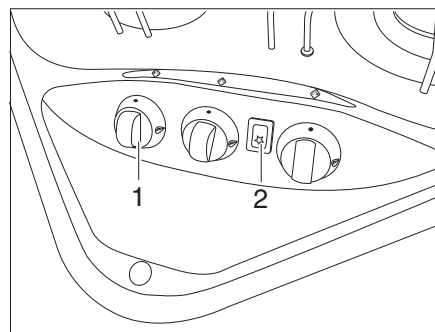
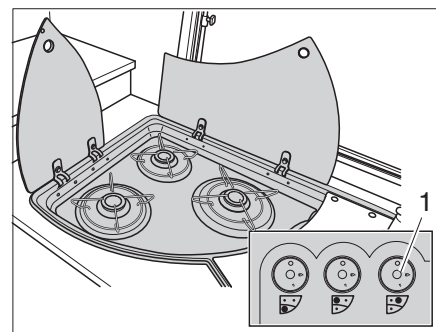

Fig. 133 Operating controls for gas cooker
Fig. 134 Alternative: Operating controls for gas cooker
- Turn the control knob (Fig. 133,1 or Fig. 134,1) on the burner you wish to use to the ignition position (large flame).
- If an ignition button (Fig. 133,2) is present: